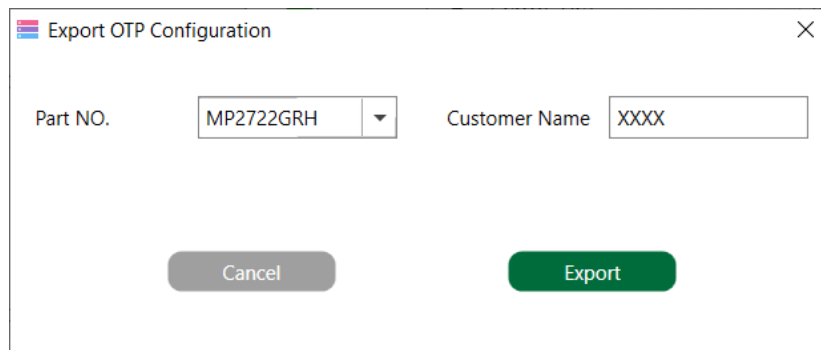

Figure 13: Click Export Buttons
7. Export the selected configurations by clicking “Export” (see Figure 13).